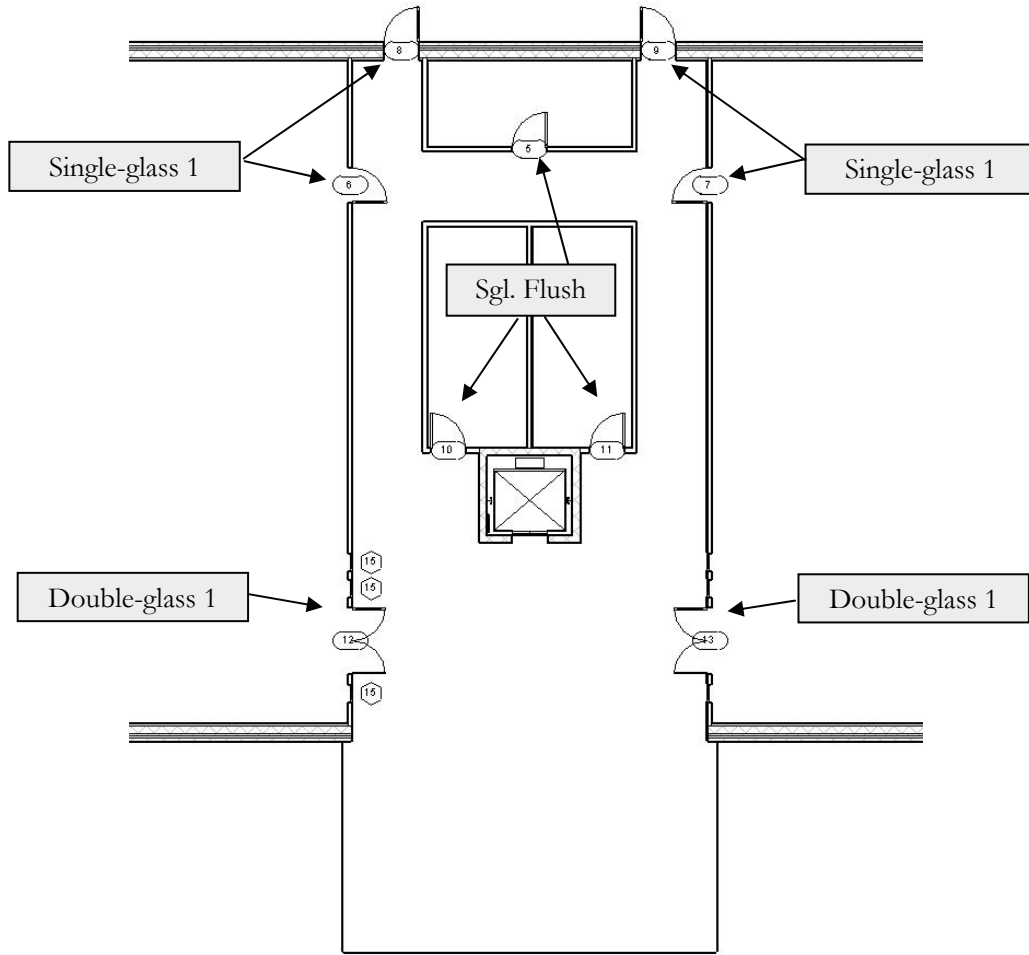

FIGURE 3-5.5 First floor with doors
10. Finish inserting doors for the first floor (Figure 3-5.5).
- c. Use the style and approximate location shown in Figure 3-5.5.